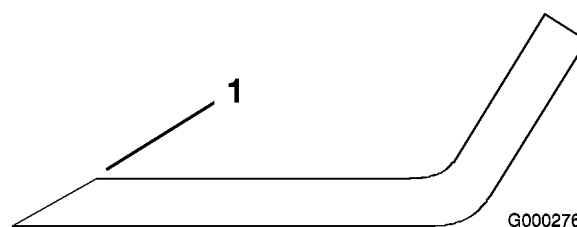

Figure 61
1. Use a file to sharpen the cutting edge at both ends of the blade (Figure 61). Maintain the original angle. The blade retains its balance if the same amount of material is removed from both cutting edges.